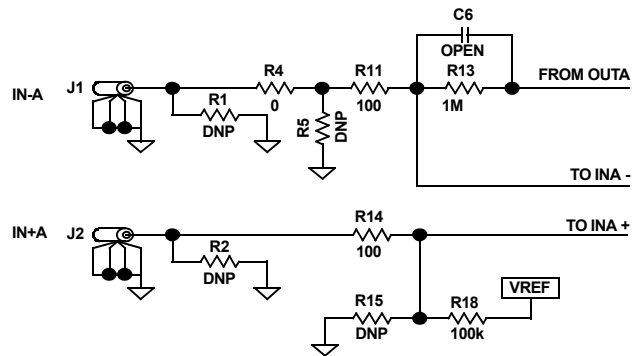

FIGURE 3. INPUT STAGE
**Amplifier Configuration (Figure 3)**
The schematic of the op amp input stage with the components supplied is shown in Figure 3, with a closed loop gain of 10,000. The circuit implements a Hi-Z differential input with unbalanced common mode impedance. The differential amplifier gain is expressed in Equation 1:
**User-Selectable Options (Figures 3 and 4)**
A voltage divider (Figure 3, R18 and R15) can be added to establish a power supply-tracking common mode reference using the VREF input. The inverting and non-inverting inputs have additional resistor placements for adding input attenuation, or to establish input DC offsets through the VREF pin.